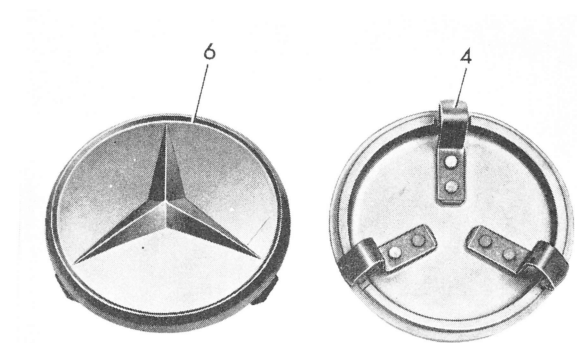

Fig. 4
The ornamental disc wheel (6) serves to cover the hub of the light alloy disc wheel and is held against the hub of the disc wheel by means of three retaining springs (4) (Fig. 4).